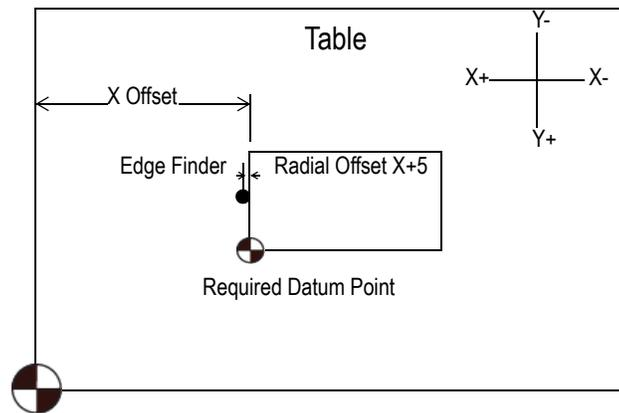

Figure 6-8: G92 Position Set
3. Type-in the current programme position from datum edge to the spindle centreline e.g. G92 X+5 (Figure 6-8:).